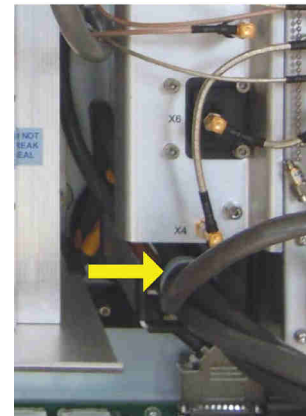

Fig. 10.36 Cable strap
- 9 In the cable tray at the bottom of the Waveguide Assy, cut the cable strap holding the cables to the assy. See Fig. 10.36 \(p. 155\).